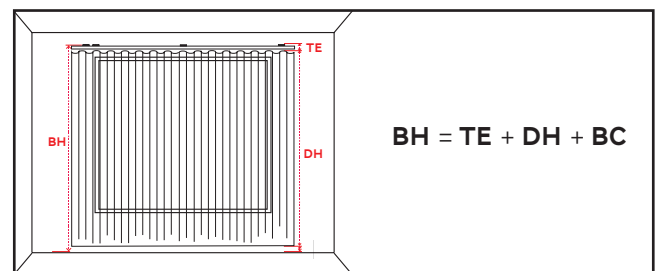

Figure 3 - Calculate bracket installation height
Some advertised drapery heights are not precise. To be certain of bracket installation height (BH), carefully measure the drapery height. With a pencil, locate the vertical position of the wall bracket based on the drapery height (DH), bottom clearance (BC), and track exposure (TE). See Figure 3.